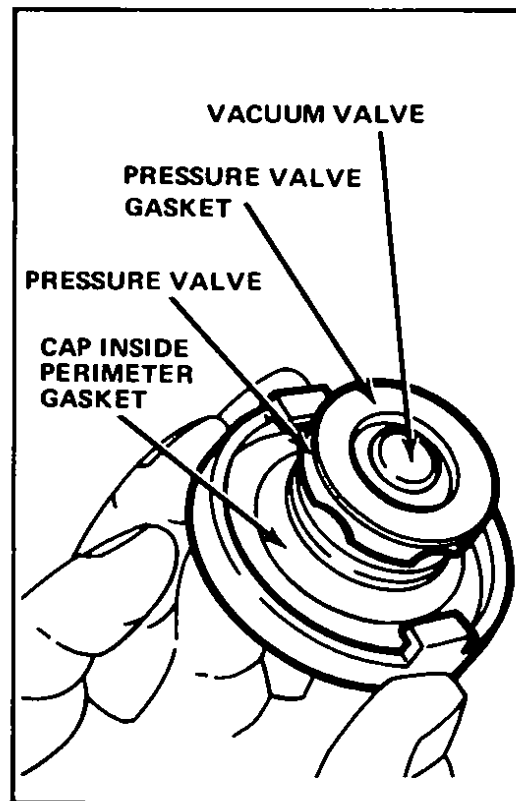

Fig 7 Inspect radiator cap
- 8 Check the coolant level, add coolant to the system again as needed and wash off the radiator cap and seat in the radiator filler neck Reinstall the cap and check the system for leaks, Fig 7